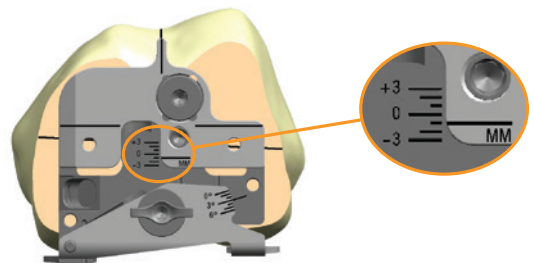

Figure 13
- 3 If there exists a known flexion/extension imbalance, unlock, translate and relock the drill guide appropriately (Figure 13).